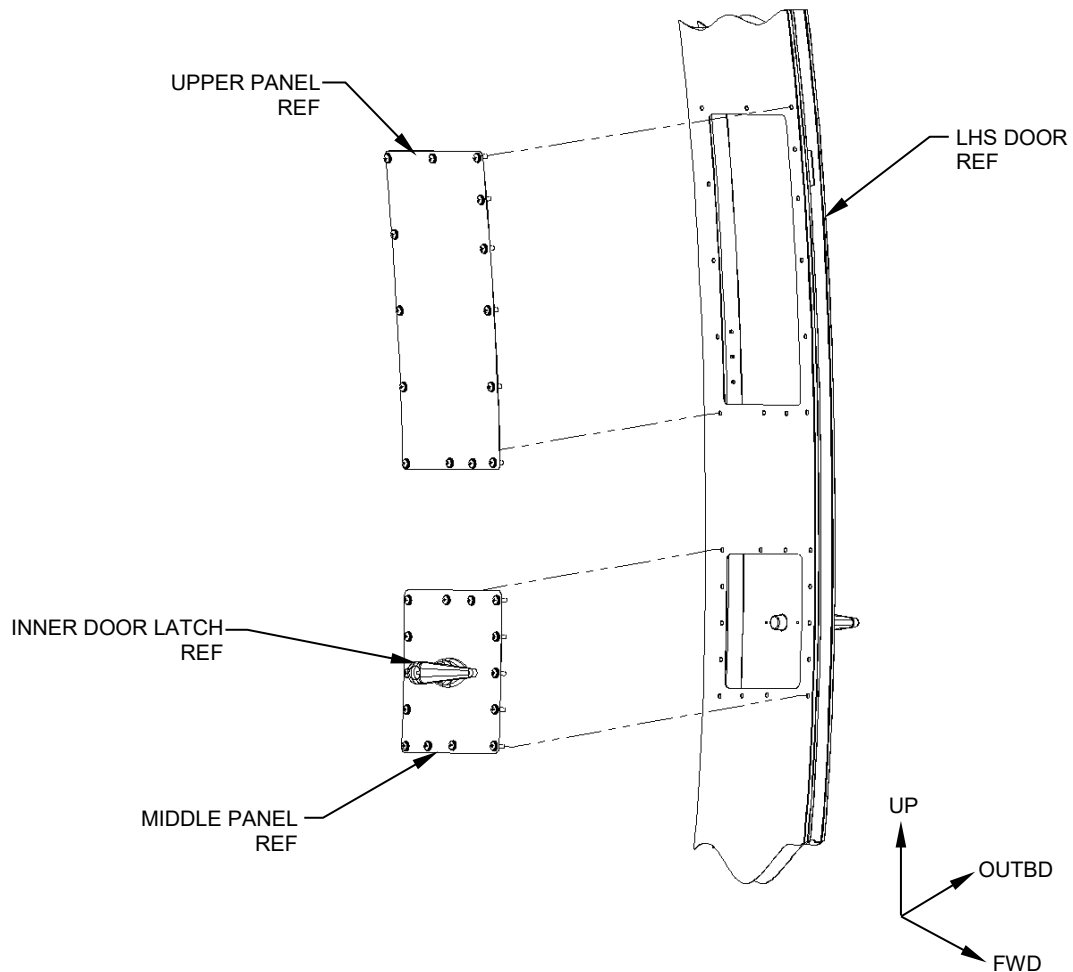

Figure 14
1. Gain access to the inside of the Door by removing the upper and middle inner panels and inner door latch. Reference in Figure 14.